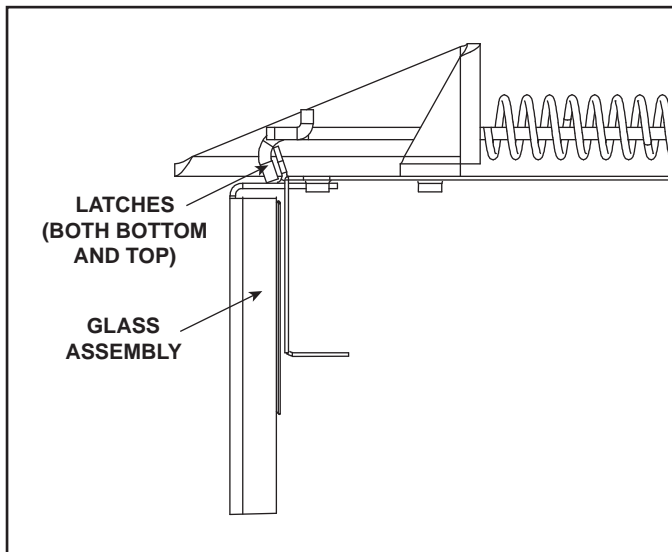

Figure 11.4 Fixed Glass Assembly
- Pull the four glass assembly latches out of the groove on the glass frame. Remove glass door from the appliance. See Figure 11.4.